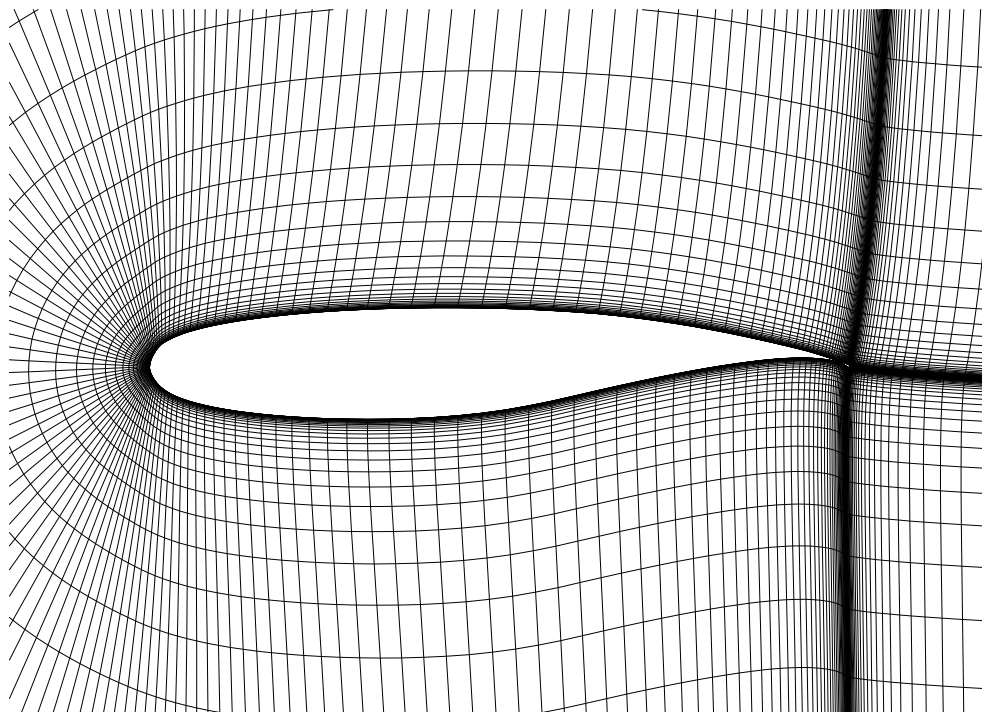

Figure 6.14: Algebraic grid for Test Case 5
5. Algebraic H-grid plot (figure 6.14)